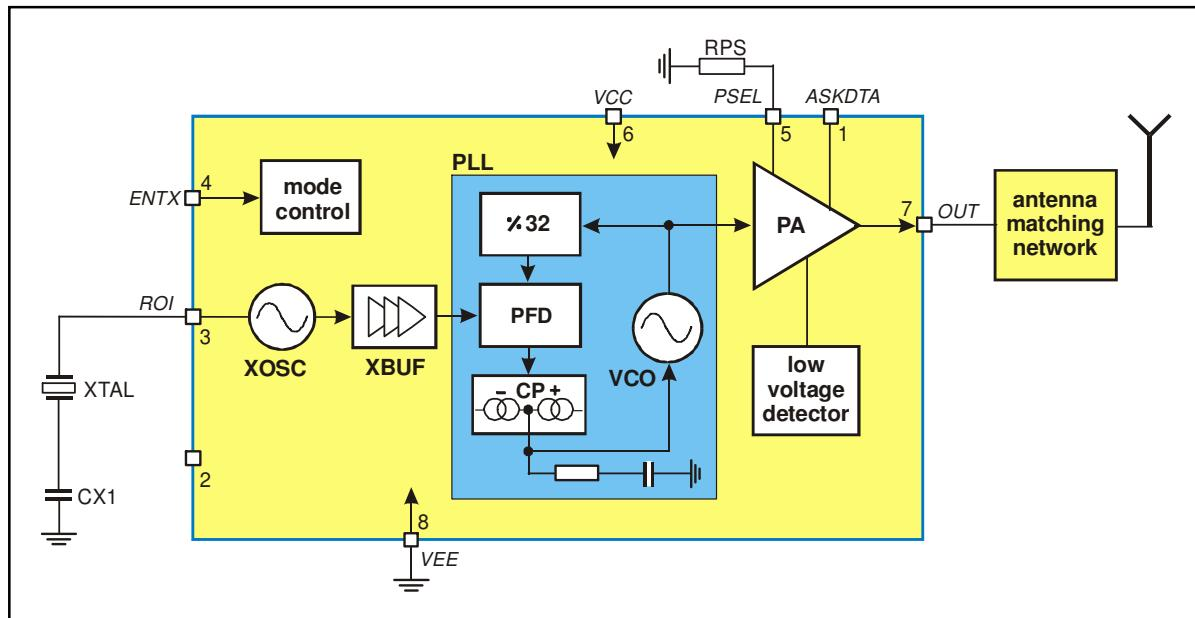

Fig. 1: Block diagram with external components
As depicted in Fig.1, the TH72012 transmitter consists of a fully integrated voltage-controlled oscillator (VCO), a divide-by-32 divider (div32), a phase-frequency detector (PFD) and a charge pump (CP). An internal loop filter determines the dynamic behavior of the PLL and suppresses reference spurious signals. A Colpitts crystal oscillator (XOSC) is used as the reference oscillator of a phase-locked loop (PLL) synthesizer. The VCO's output signal feeds the power amplifier (PA). The RF signal power P_{out} can be adjusted in four steps from $P_{out} = -12$ dBm to $+10$ dBm, either by changing the value of resistor RPS or by varying the voltage V_{PS} at pin PSEL. The open-collector output (OUT) can be used either to directly drive a loop antenna or to be matched to a 50Ω load. Bandgap biasing ensures stable operation of the IC at a power supply range of 1.95 V to 5.5 V.